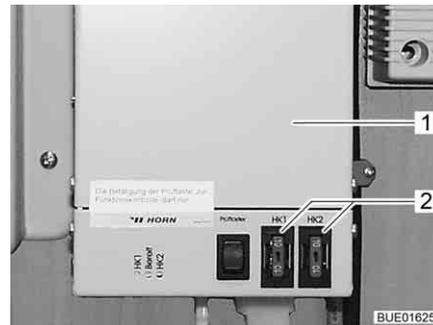

Fig. 167 Heater regulation for waste water pipes
The fuses are located on the regulator (Fig. 167,1).
- Replace fuse (Fig. 167,2).